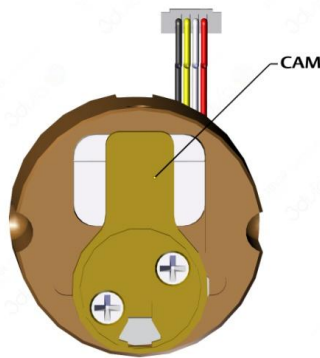

Fig. 4
**Step 2:** Verify that the cam on the M100 is the same style as was on the cylinder that was just removed. If the removed cylinder is a **Medeco** brand, the cam can be interchanged onto the M100 (Fig. 4).